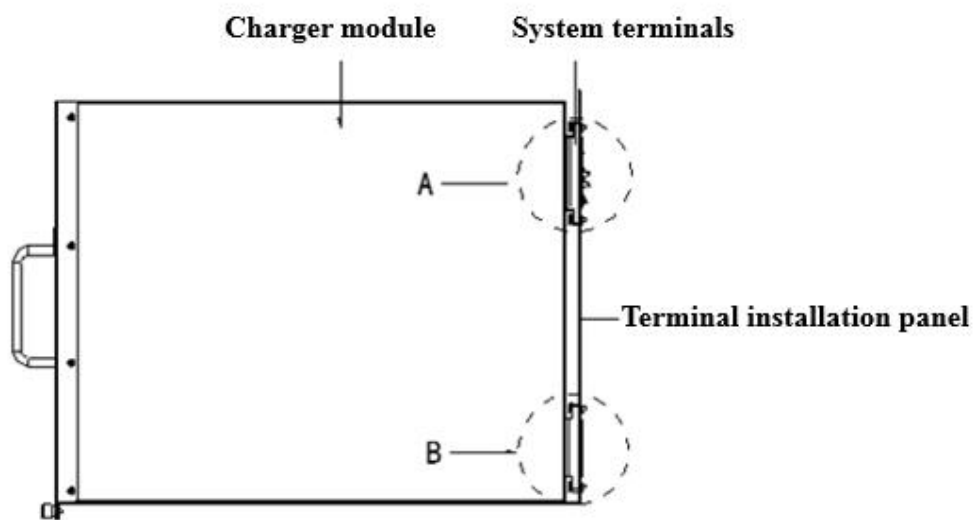

Figure 2-7 System Terminal Installation
1) System terminals (input cable terminal, output cable terminal) are installed on the terminal installation panel, see Figure 2-7